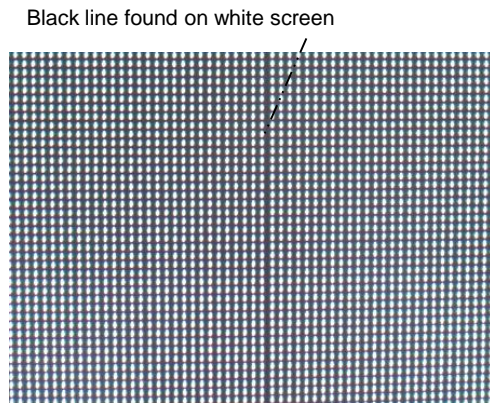

Fig.1 Black line
- ① On the white screen, check that there is no **black line** found between cabinets. (See Fig.1.)